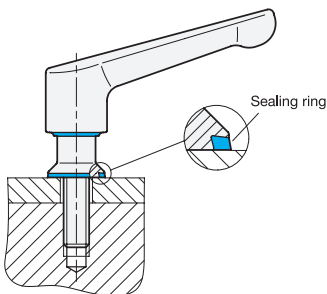

Fig. 1
- The threaded rod or hole of the hand lever must be installed in a closed space. (Fig. 1).
- It must be noted that the hand lever may only be used in combination with the supplied sealing ring. The seal has a conical shape. The correct installation position must therefore be observed (Fig. 1).